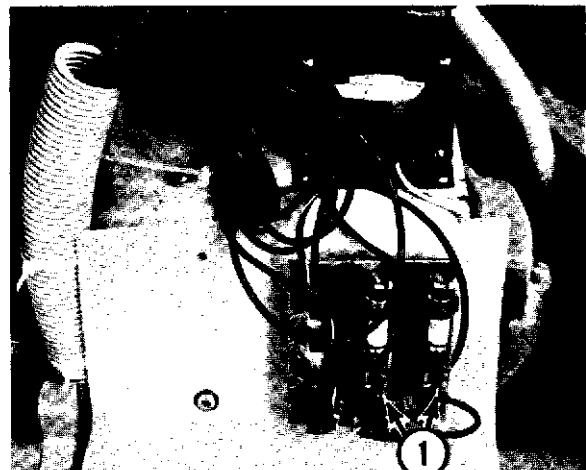

Fig. 16-1
- (1) 120VAC to power the motor contactor coil, timer motor and the bowl light.
- (2) 20VAC to power the motor protector circuit.
B. Check the input voltage to the transformer primary between terminals L1 and L2 (1, Fig. 16-1) on the fuse board.
- (1) The transformer input voltage should agree with the line voltage which is specified on the machine data plate.